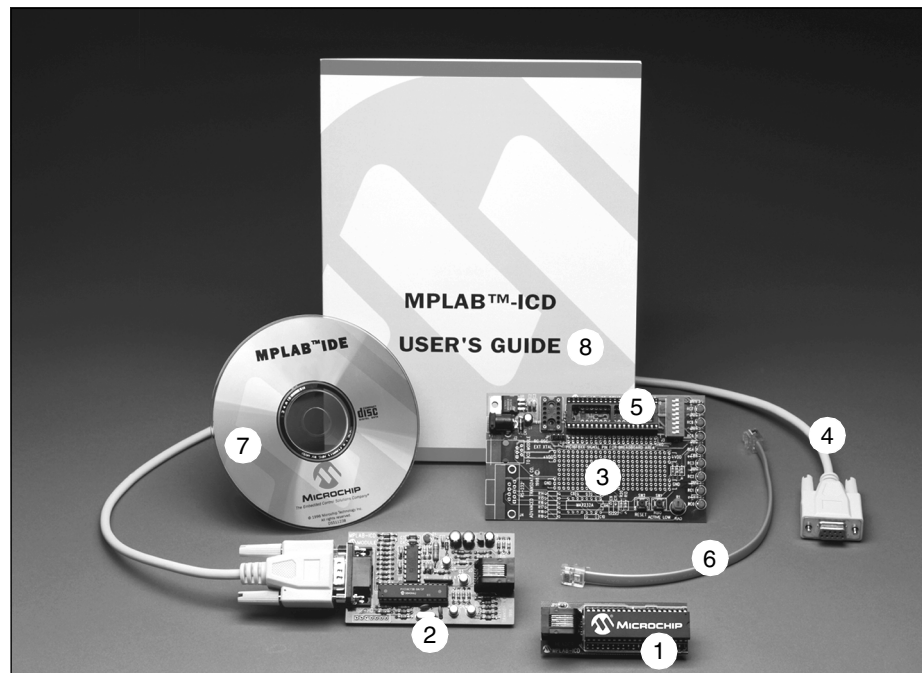

Figure 1.1: MPLAB ICD Evaluation Kit Components
There are two versions of MPLAB ICD. The MPLAB ICD Evaluation Kit (DV164001) and the MPLAB ICD Module (DV164002). The MPLAB ICD Evaluation Kit (DV164001) includes the items listed below (Figure 1.1). The MPLAB ICD Module (DV164002) contains the same items except for items 1, 3 and 5, which are not included.